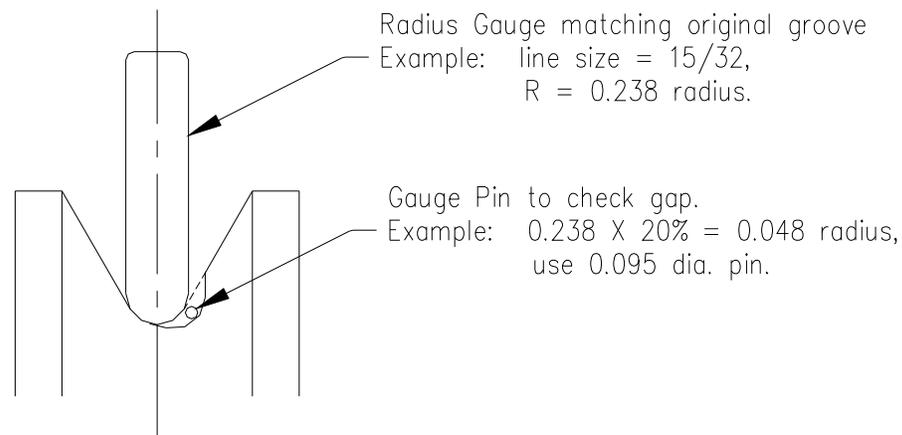

Figure 1. Wheel Groove Inspection
- Inspect the wheel groove for wear. See figure 1. Insert a radius gauge corresponding to the original groove size listed in **doc. # WTI-16**. If the groove has worn more than 20%” from its original form, recommend wheel re-grooving to the customer. Wheels can be re-grooved up to 0.250” deeper than their original dimension. Minimum diameters at the bottom of the groove are 11.75” for 14” sheave, 14.75 for 17” sheave, and 23.5” for 26” sheave. If the wheel cannot be re-grooved within these parameters, recommend replacement.